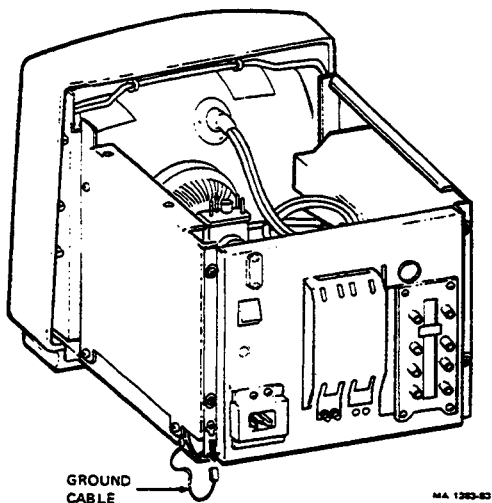

Figure 4-3 VR241-A Monitor Ground Cable
- Make sure the ground cable is connected to the rear, lower-left tab (Figure 4-3).